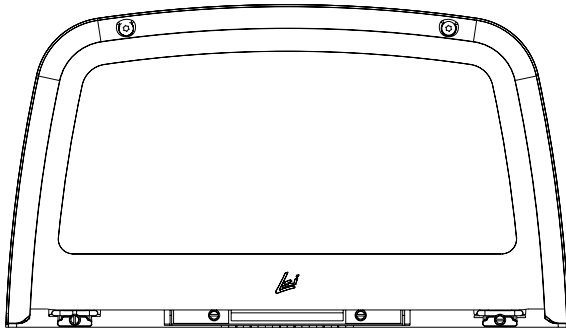

Figure 8
9. While keeping the mounting arm pins in their slots, mount the luminaire to the wall mounting plate by sliding from top to bottom over the plate. See Figure 8.